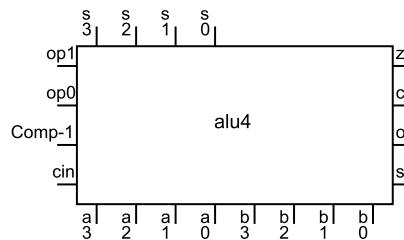

Figure 2.5: Macro of a 4-bit ALU
- ❑ Once the circuit has been built, create the `alu4` macro, with its inputs and outputs located as shown in figure 2.5.